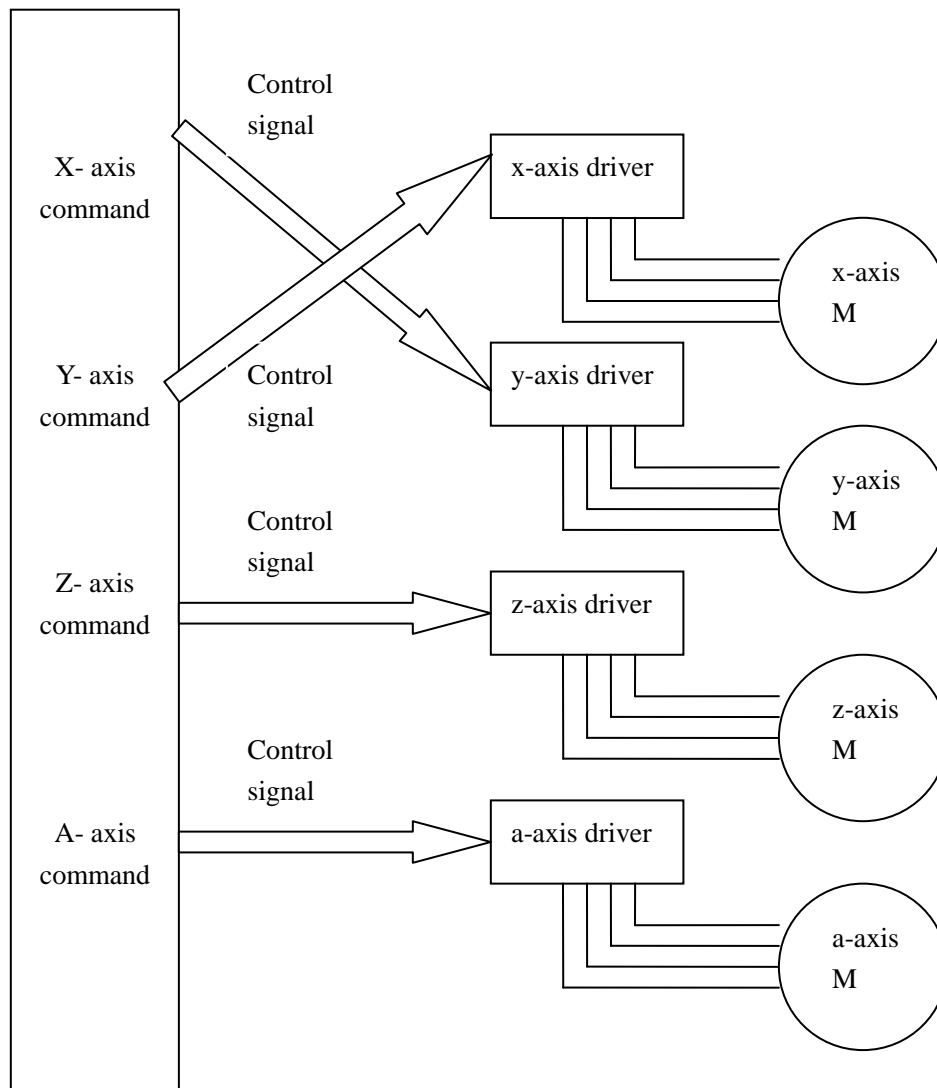

Figure 6-5
2. do as Figure 6-5 to check the cable of control signal.	2 .if the cable is broken, replace it